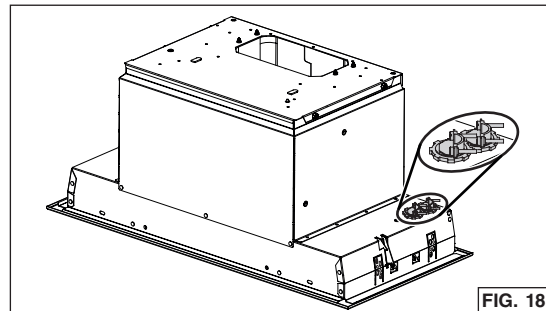

FIG. 18
4. Punch out **both** knock-out holes. Install an appropriate 7/8" diameter strain relief (not included, grey parts in FIG. 18) in each hole.